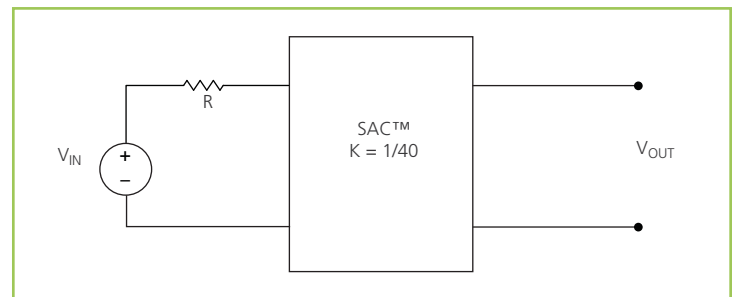

Figure 18 – K = 1/40 Sine Amplitude Converter with series input resistor
The use of DC voltage transformation provides additional interesting attributes. Assuming that R_{OUT} = 0 Ω and I_Q = 0 A, Eq. (3) now becomes Eq. (1) and is essentially load independent, resistor R is now placed in series with V_{IN} as shown in Figure 18.
Assuming that $R = 1 \Omega$, the effective R as seen from the secondary side is $0.63 \text{ m}\Omega$, with $K = 1/40$ as shown in Figure 18.